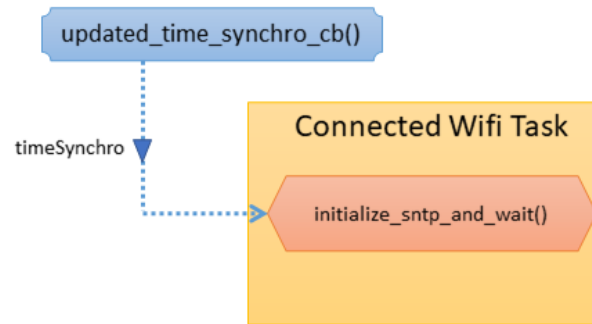

FIGURE 1.3 – Software architecture for a WiFi connection.
7. To solve the date/time update, we propose to add a function *initialize_sntp_and_wait()* that waits on a *timeSynchro* event. This *timeSynchro* event is sent by the *updated_time_synchro_cb()* callback as we use *time_synchro_cb()* callback previously. The figure 1.3 depicts the principle.